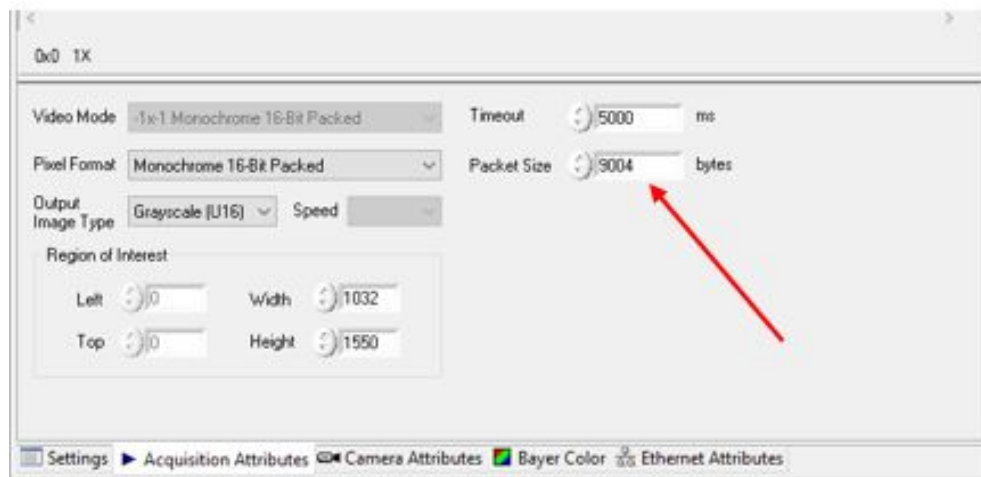

Figure 62- Acquisition Attributes window. Set the packet size to 9004.
4. Set the values as shown in **Figure 62**.